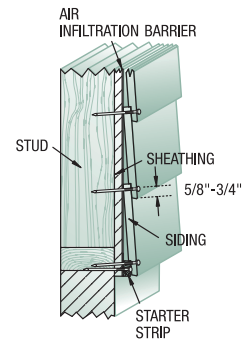

FIG. 5
- **Note: For Self-Aligning Lap Siding** place the self-aligning lap edge on the top of each additional course; make sure the self-aligning lap joint is resting flat on the lower piece. See Fig. 5